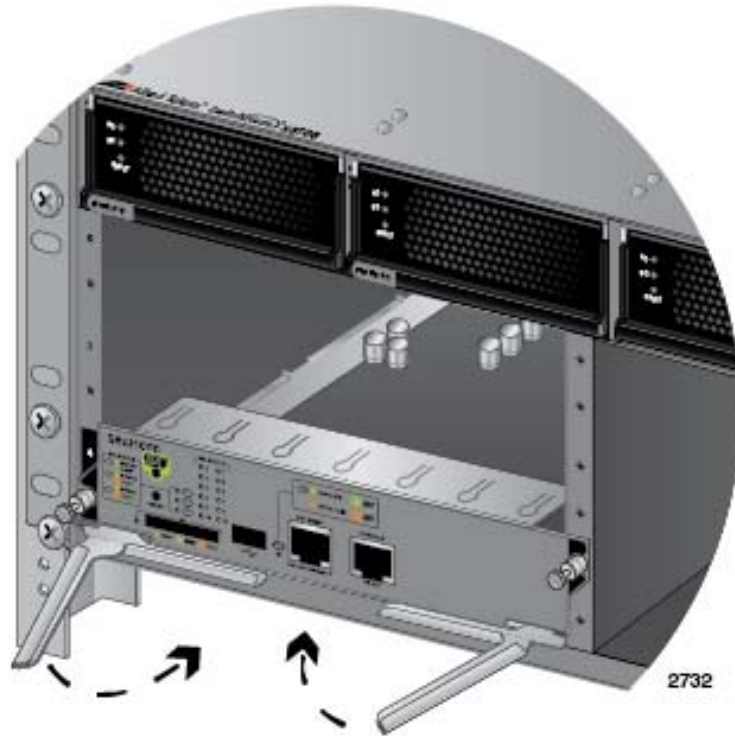

Figure 74. Closing the Locking Levers on the AT-SBx31CFC Controller Fabric Card
8. When you feel the card make contact with the connector on the backplane of the chassis, carefully close the two locking levers on the front panel of the controller card to secure it in the chassis. Refer to Figure 74 on page 132.